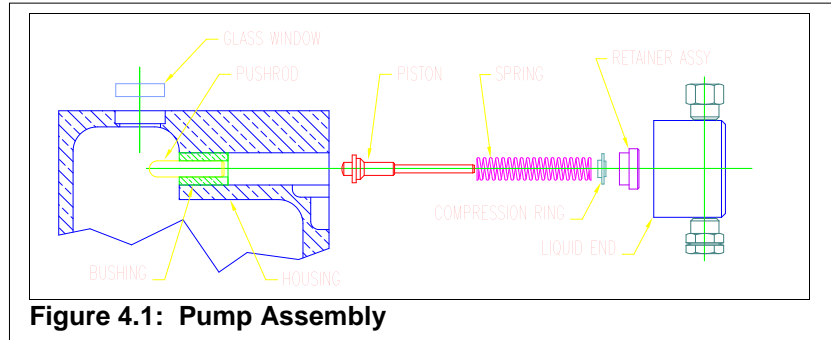

Figure 4.1: Pump Assembly
- Remove the liquid end from the pump as follows: Unscrew the two 5/32" socket head bolts while holding the liquid end against the pump housing. Pull the liquid end straight out from the pump housing, in line with the axis of the piston. If you cock or tilt the liquid end, you may break the piston. See Figure 4.1.
13. Reinstall the liquid end on the pump. See Figure 4.1.